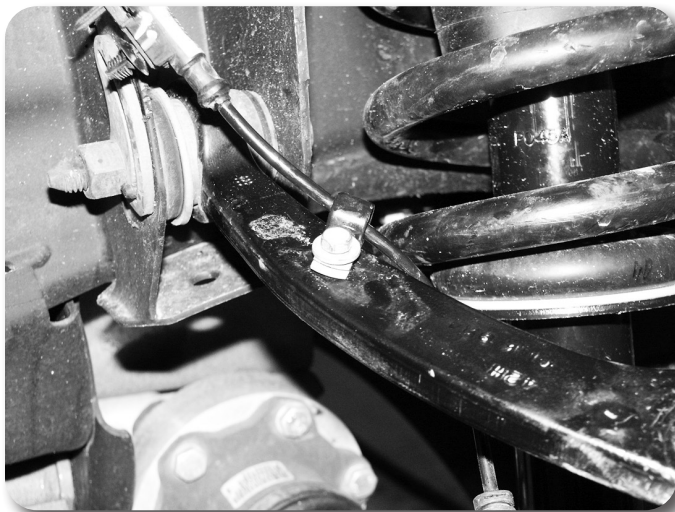

Figure 30
62. Attach the ABS line to the upper control arm with the original brake line mounting bolt and provided wire clamp **Figure 30**.